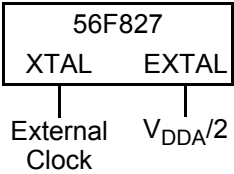

Figure 3-11 Connecting an External Clock Signal
The recommended method of connecting an external clock is given in Figure 3-11. The external clock source is connected to XTAL and the EXTAL pin is held $V_{DDA}/2$.
1. See Figure 3-11 for details on using the recommended connection of an external clock driver.